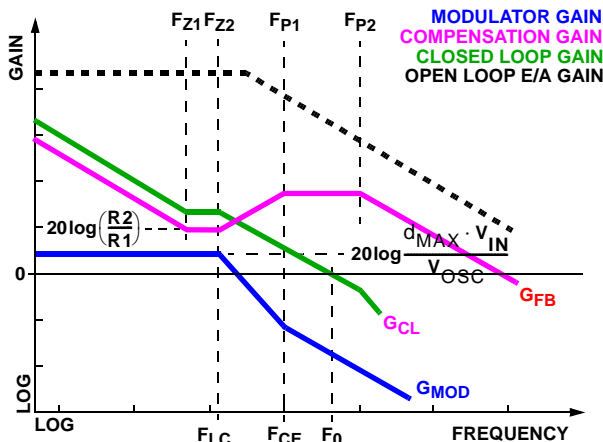

FIGURE 10. ASYMPTOTIC BODE PLOT OF CONVERTER GAIN
Figure 10 shows an asymptotic plot of the DC/DC converter's gain vs frequency. The actual Modulator Gain has a high gain peak dependent on the quality factor (Q) of the output filter, which is not shown. Using the above guidelines should yield a compensation gain similar to the curve plotted. The open loop error amplifier gain bounds the compensation gain. Check the compensation gain at  $F_{P2}$  against the capabilities of the error amplifier. The closed loop gain,  $G_{CL}$ , is constructed on the log-log graph of Figure 10 by adding the modulator gain,  $G_{MOD}$  (in dB), to the feedback compensation gain,  $G_{FB}$  (in dB). This is equivalent to multiplying the modulator transfer function and the compensation transfer function and then plotting the resulting gain.